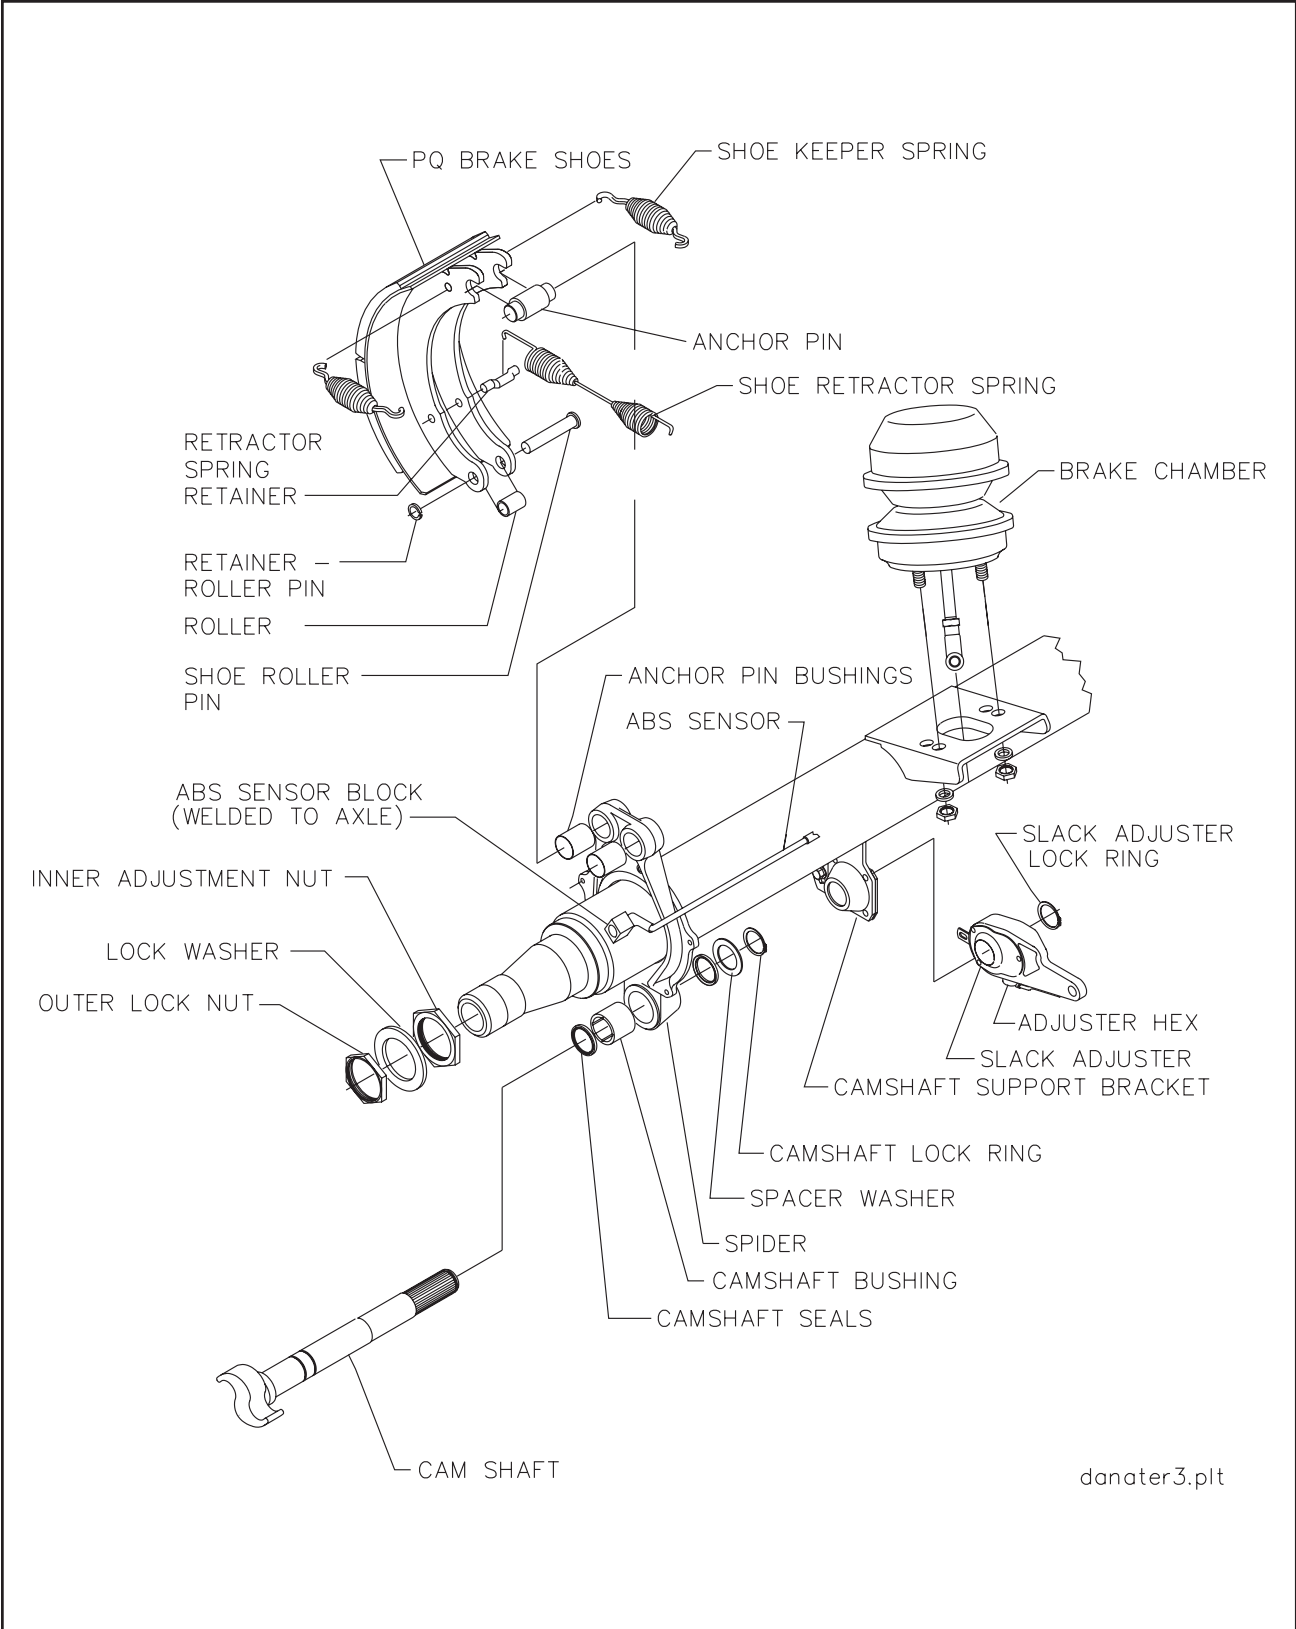

Figure 4-13 Axle and Brake Assembly
b. Disassembly for 12-1/4" X 7-1/2" Brakes (See Figure 4-13)
c. Reassembly for 12-1/4" X 7-1/2" Brakes (See Figure 4-13)
d. Disassembly for 16-1/2" x 7" Brakes (See Figure 4-13).
e. Reassembly for 16-1/2 x 7" Brakes (See Figure 4-13).